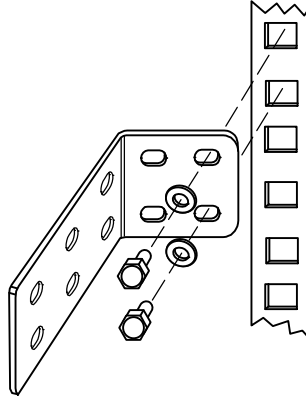

Figure 5. Insert M5 Hex Head Bolts (Far-Left Position Shown)
3. Insert two M5 hex head bolts (supplied) through the flat washers (supplied) and mounting holes in the short flange and the holes in the vertical rail (see Figure 5).